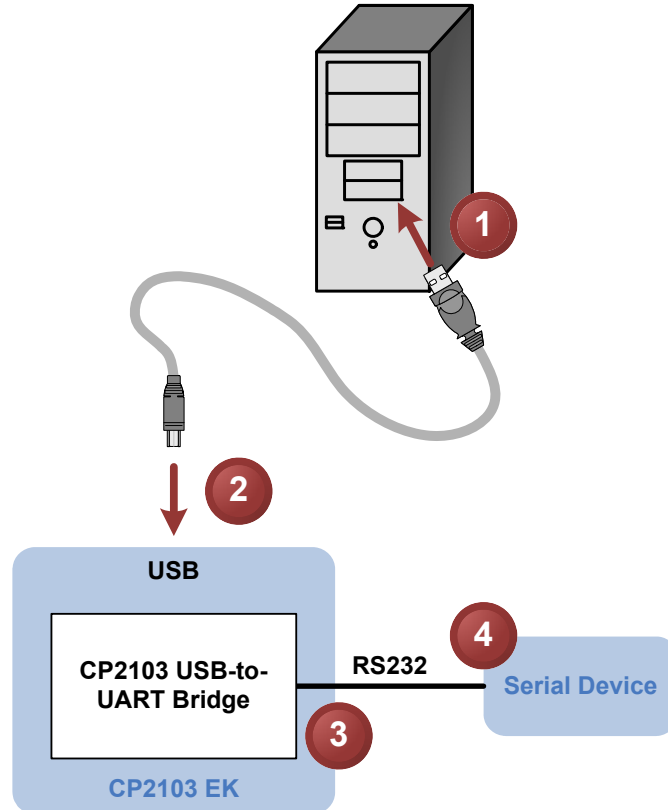

Figure 1. Hardware Setup
The evaluation board is connected to a PC as shown in Figure 1.
- Updated Figure 1 and Figure 2.